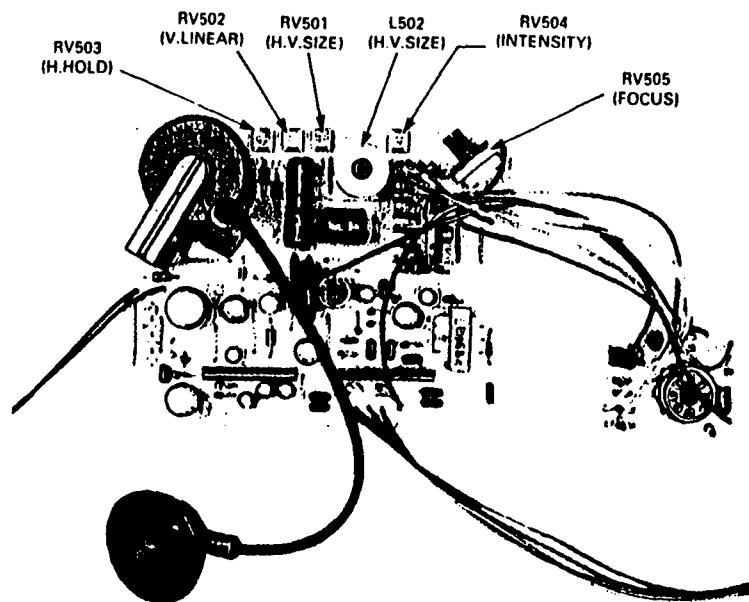

FIG. 5-1 DISPLAY PCB
- 1) Intensity adjustment (See Fig. 5-1)
- 2) Focus adjustment (See Fig. 5-1)